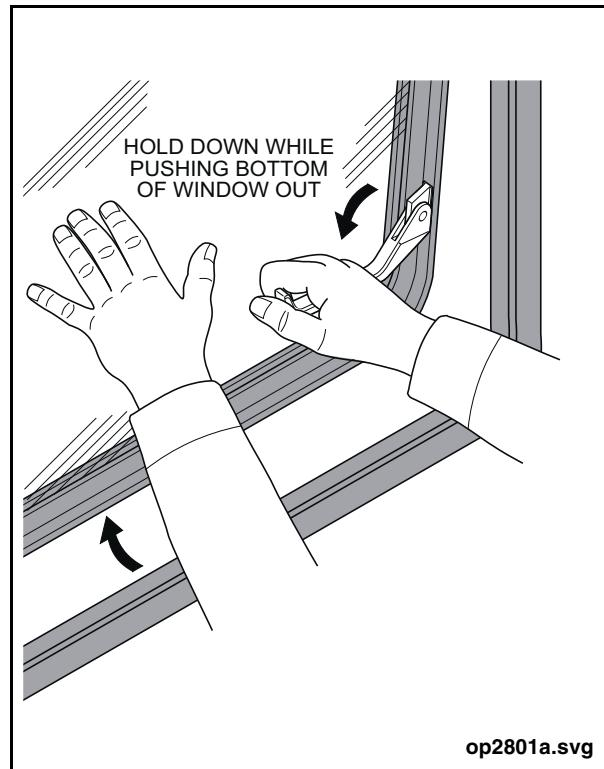

Fig. PM-21: Window Emergency Release
1. Activate emergency release system by pulling the emergency release handle and pushing outward on the window. See "Fig. PM-21: Window Emergency Release" on page 51.